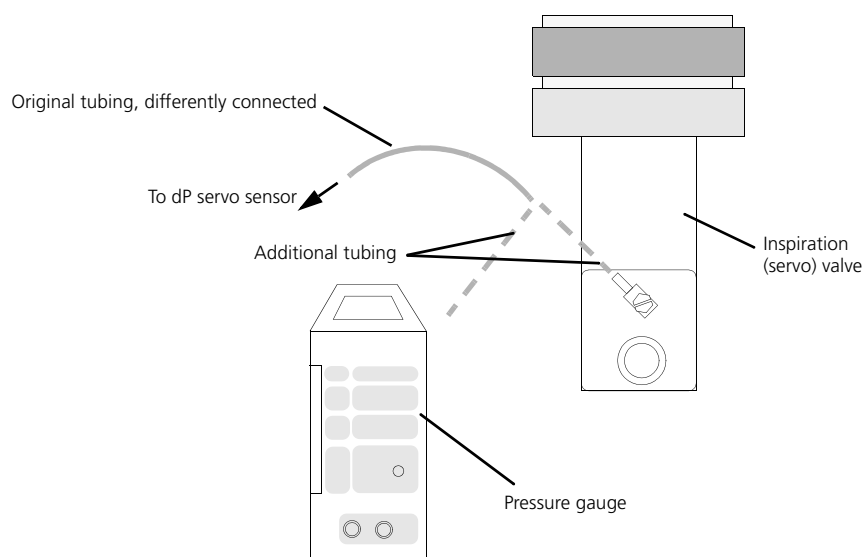
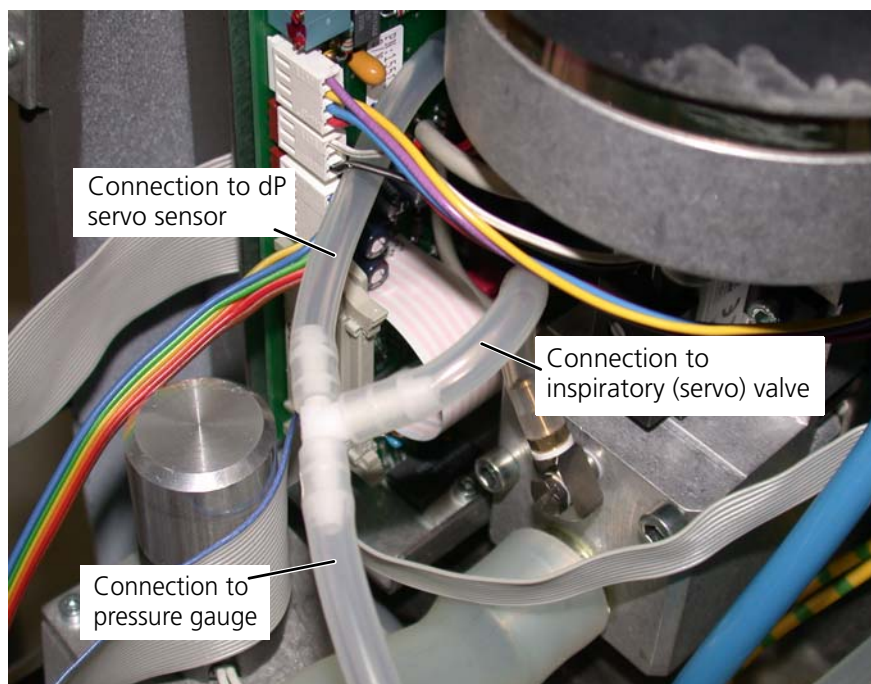

Figure 10-23. Setup for the dP servo full-scale calibration
Figure 10-24. Tubing setup for the dP servo full-scale calibration
2. Build and connect the tubing setup shown in Figure 10-23 and Figure 10-24. On the pressure gauge use a probe suitable for reading approximately 500 mbar. A pressure of 200 to 500 mbar is generated by GALILEO.